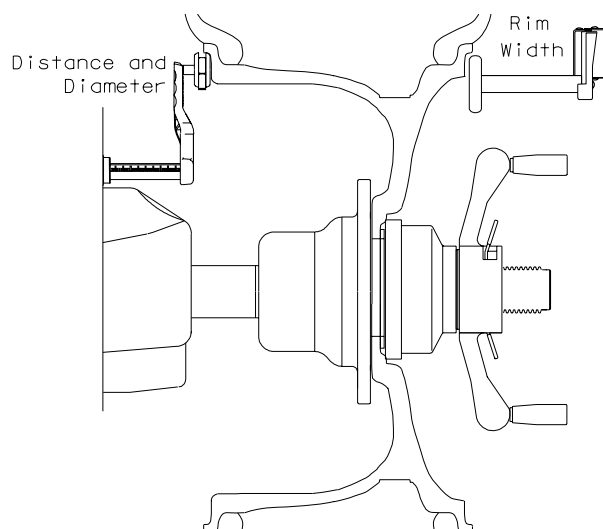

Figure 22
**4.5.1 Rim Distance (offset) and Diameter** - Move the rim offset arm to the inside edge of the rim, touch the pointer to the rim edge, touch the tip of the width arm to the outside rim edge where weights will be placed as illustrated in Figure 22. Hold arms steady for about a second. The beeper will sound when the parameter values are calculated and entered automatically. Return the arms to its home rest position on the balancer. Do not allow the measurement arms to "dangle".